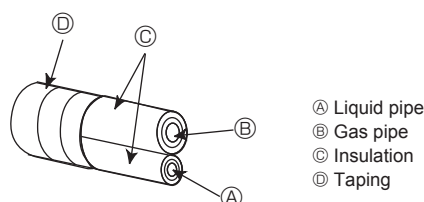
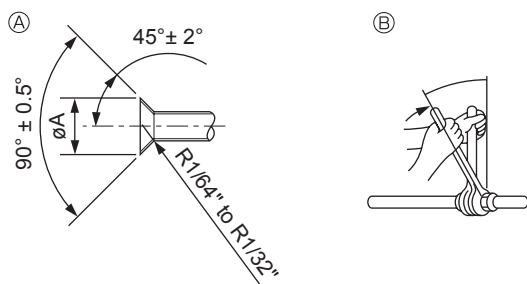

Fig. 4-4
Fig. 4-5
① (Fig. 4-5)
4.4. Connecting pipes (Fig. 4-4) (Fig. 4-5)
- [Fig. 4-5]
- Apply thin layer of refrigerant oil to pipe and joint seating surface before tightening flare nut. ①
- Use 2 wrenches to tighten piping connections. ②
- Apply refrigerating machine oil over the entire flare seat surface. ③
- Use the flare nuts as follows. ④
- ① Pipes must be connected starting from the indoor unit.